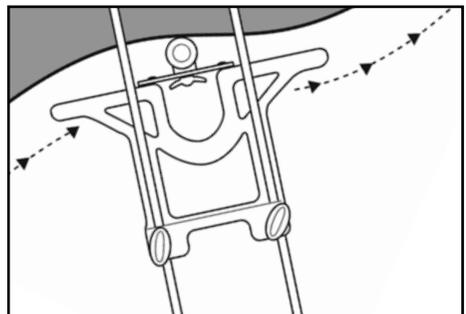

FIG.14
- When cutting, ride the guide wheel along the contour of the workpiece to make the cut (Fig.14).